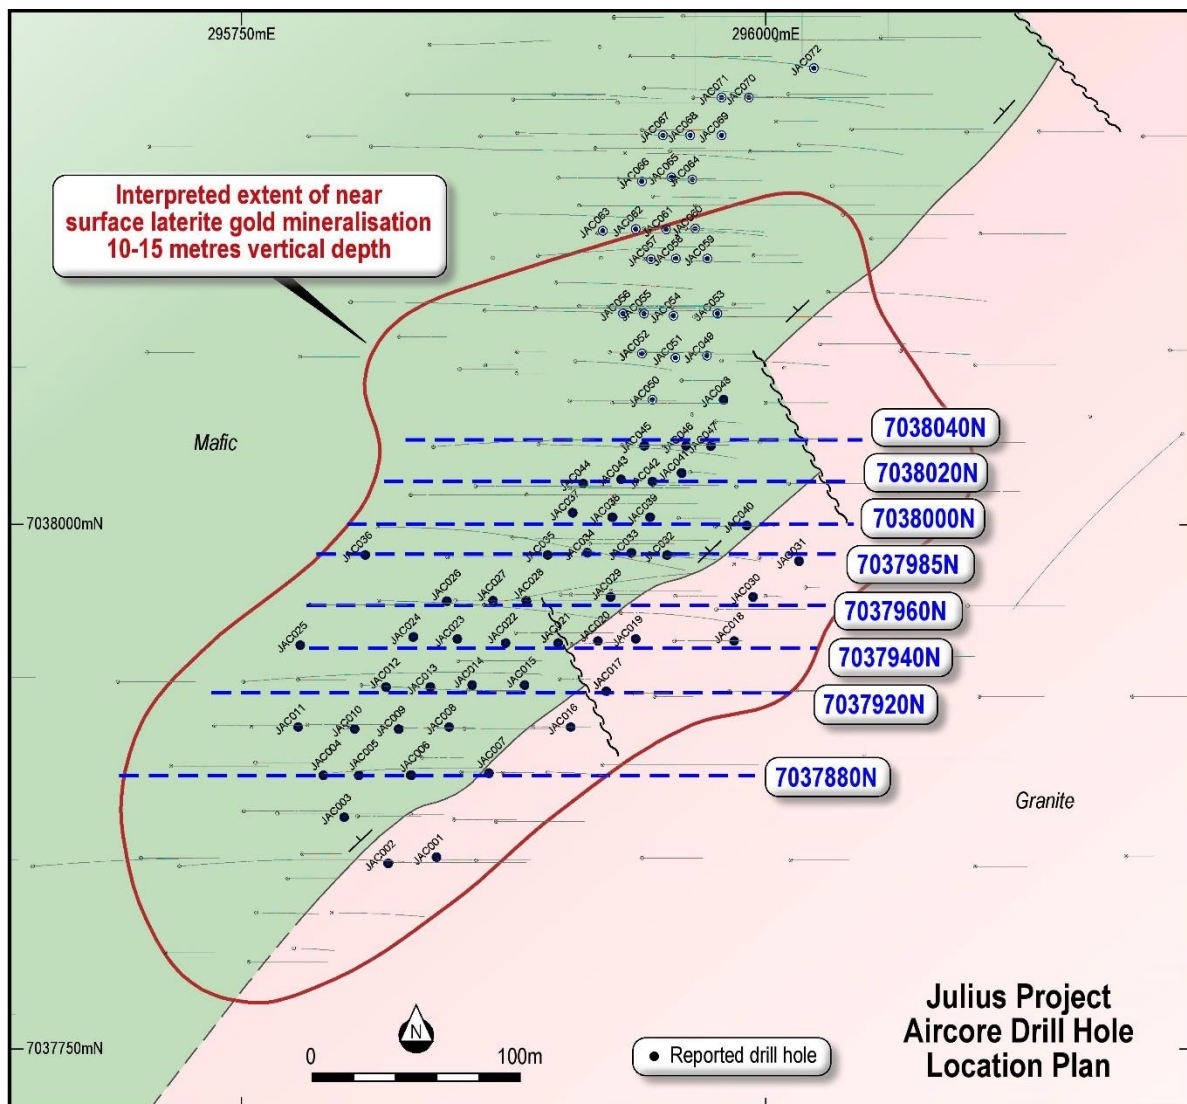

Figure 1: Drill Hole Location Plan
**The initial results returned are from the first 48 holes (JAC001->JAC048, see Figure 1) located in the southern sector of the near surface gold resource.**